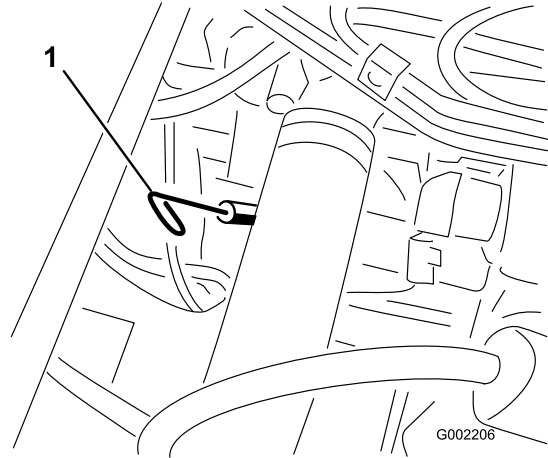

Figure 39
2. Remove the dipstick, located under the passenger seat, and wipe it with a clean rag (Figure 39). Insert the dipstick into the tube and make sure it is seated fully. Remove the dipstick and check the oil level.
13. Remove the oil filler cap and slowly pour approximately 80% of the specified amount of oil into the engine at the oil filler (Figure 39).